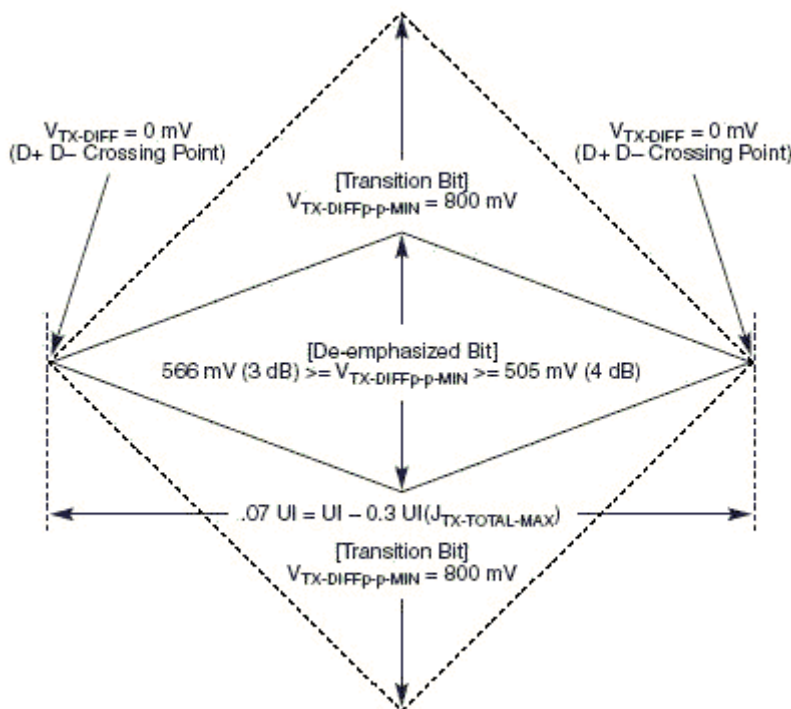
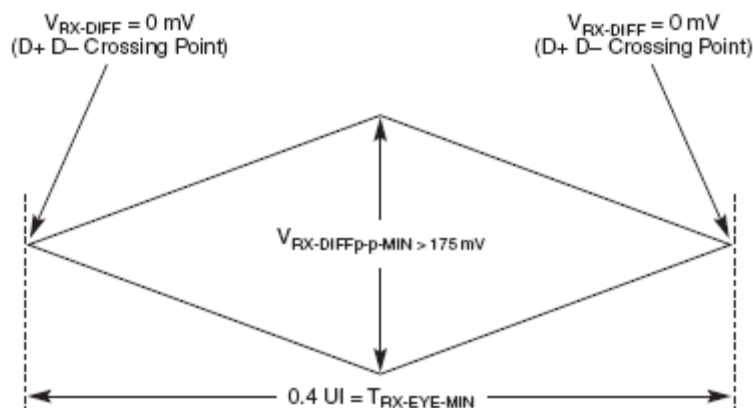
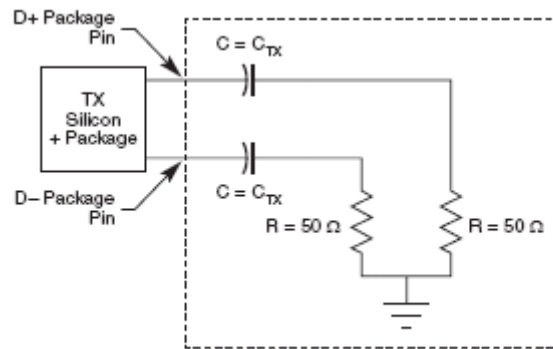

Figure 55. Minimum Transmitter Timing and Voltage Output Compliance Specifications
Figure 56. Minimum Receiver Eye Timing and Voltage Compliance Specification
Figure 57. Compliance Test/Measurement Load
2. Specified at the measurement point into a timing and voltage compliance test load as shown in Figure 57 and measured over any 250 consecutive TX UIs. (Also refer to the transmitter compliance eye diagram shown in Figure 55.)
4. The Transmitter input impedance shall result in a differential return loss greater than or equal to 12 dB and a common mode return loss greater than or equal to 6 dB over a frequency range of 50 MHz to 1.25 GHz. This input impedance requirement applies to all valid input levels. The reference impedance for return loss measurements is 50 ohms to ground for both the D+ and D- line (that is, as measured by a Vector Network Analyzer with 50 ohm probes—see Figure 57). Note that the series capacitors  $C_{TX}$  is optional for the return loss measurement.
5. Measured between 20-80% at transmitter package pins into a test load as shown in Figure 57 for both  $V_{TX-D+}$  and  $V_{TX-D-}$ .
The TX eye diagram in Figure 55 is specified using the passive compliance/test measurement load (see Figure 57) in place of any real PCI Express interconnect + RX component.
- Specified at the measurement point and measured over any 250 consecutive UIs. The test load in Figure 57 should be used as the RX device when taking measurements (also refer to the Receiver compliance eye diagram shown in Figure 56). If the clocks to the RX and TX are not derived from the same reference clock, the TX UI recovered from 3500 consecutive UI must be used as a reference for the eye diagram.
- The Receiver input impedance shall result in a differential return loss greater than or equal to 15 dB with the D+ line biased to 300 mV and the D- line biased to -300 mV and a common mode return loss greater than or equal to 6 dB (no bias required) over a frequency range of 50 MHz to 1.25 GHz. This input impedance requirement applies to all valid input levels. The reference impedance for return loss measurements for is 50 ohms to ground for both the D+ and D- line (that is, as measured by a Vector Network Analyzer with 50 ohm probes - see Figure 57). Note: that the series capacitors CTX is optional for the return loss measurement.
The RX eye diagram in Figure 56 is specified using the passive compliance/test measurement load (see Figure 57) in place of any real PCI Express RX component.
Note: In general, the minimum Receiver eye diagram measured with the compliance/test measurement load (see Figure 57) is larger than the minimum Receiver eye diagram measured over a range of systems at the input Receiver of any real PCI Express component. The degraded eye diagram at the input Receiver is due to traces internal to the package as well as silicon parasitic characteristics which cause the real PCI Express component to vary in impedance from the compliance/test measurement load. The input Receiver eye diagram is implementation specific and is not specified. RX component designer should provide additional margin to adequately compensate for the degraded minimum Receiver eye diagram (shown in Figure 56) expected at the input Receiver based on some adequate combination of system simulations and the Return Loss measured looking into the RX package and silicon. The RX eye diagram must be aligned in time using the jitter median to locate the center of the eye diagram.
The reference impedance for return loss measurements is 50. to ground for both the D+ and D- line (that is, as measured by a Vector Network Analyzer with 50. probes—see Figure 57). Note that the series capacitors, CTX, are optional for the return loss measurement.
The AC timing and voltage parameters must be verified at the measurement point, as specified within 0.2 inches of the package pins, into a test/measurement load shown in Figure 57.